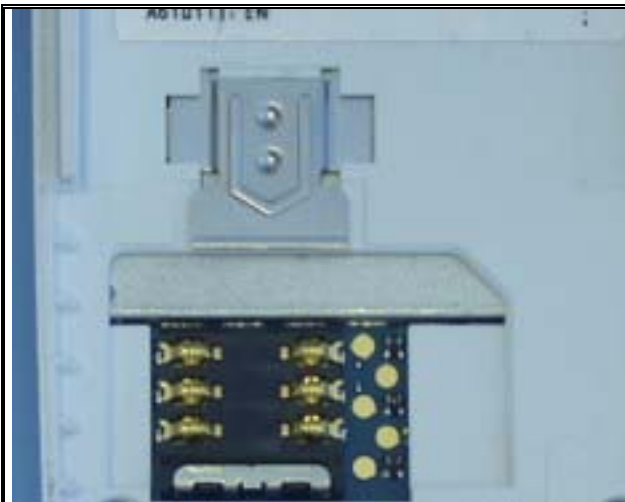

Fig. 11.1
- Check if the SIM-lock lid (*Fig. 11.1*) is mechanically damaged, dirty or oxidized. Replace it if necessary.